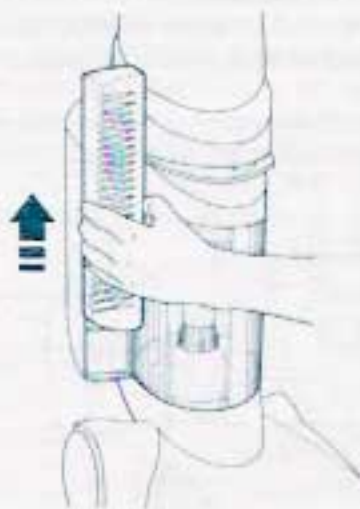

Figure 17b
2. Slide the HEPA Filter Cover up the side of the HEPA Filter Housing. (Figure 17b)